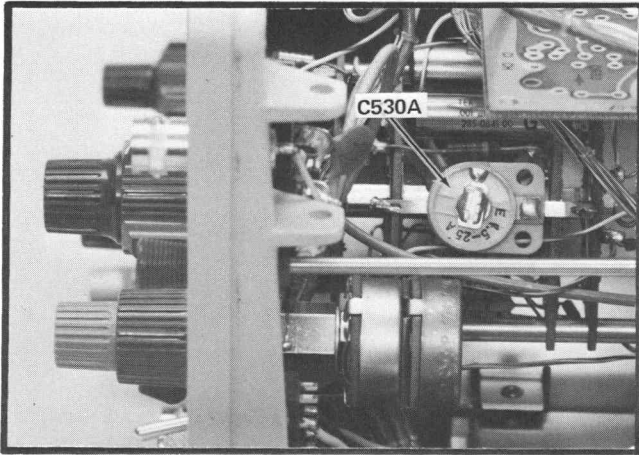

Fig. 5-10. Location of one-microsecond timing adjustment (left side of instrument).
- e. ADJUST—C530A (see Fig. 5-10) for one marker each division (use low-capacitance screwdriver).